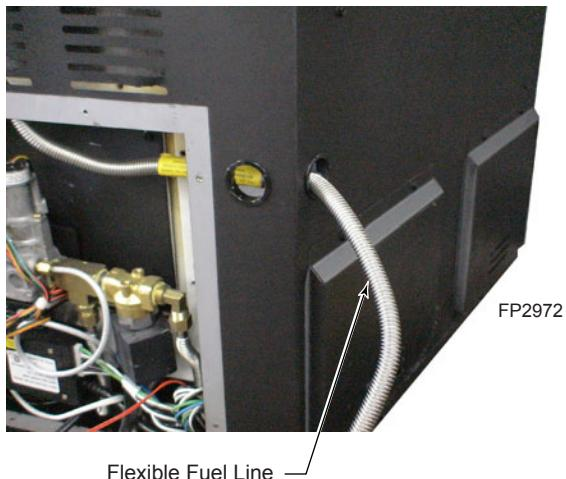

Figure 17 -
- Run flexible fuel line from valve through one of the two openings located in upper right rear corner of the insert firebox. *Figure 17*